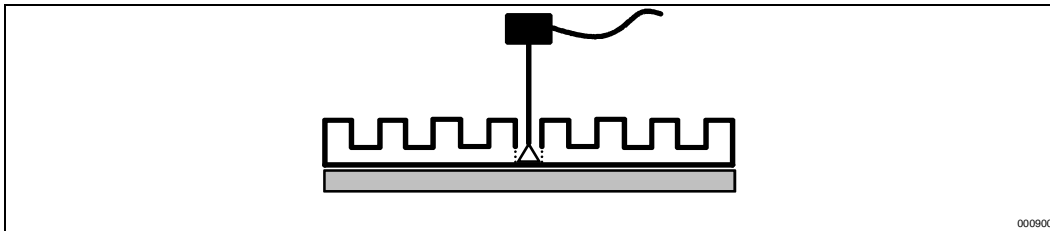

Figure 21. Technique for Measuring TPLATE with 90° Angle Attachment
- The thermocouple should be attached at a 90° angle if a heatsink is attached to the thermal plate and the heatsink covers the location specified for TPLATE measurement (refer to Figure 21).